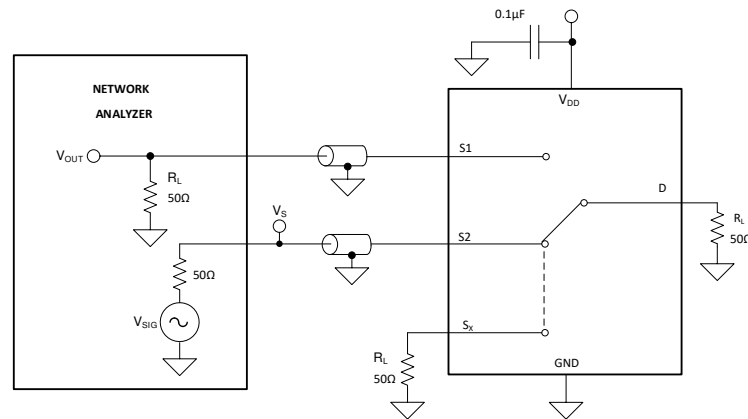

Figure 8-9. Channel-to-Channel Crosstalk Measurement Setup
Crosstalk is defined as the ratio of the signal at the drain pin (D) of a different channel, when a signal is applied at the source pin (Sx) of an on-channel. Figure 8-9 shows the setup used to measure, and the equation used to compute crosstalk.